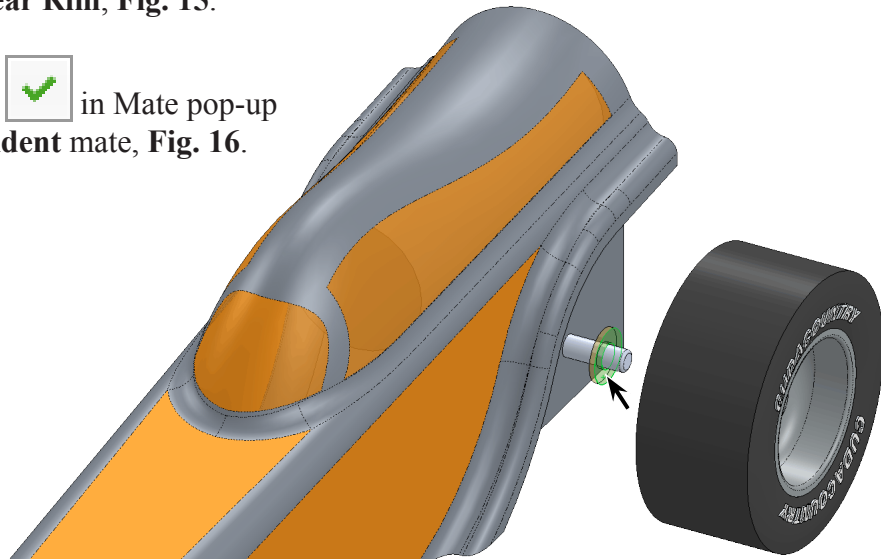

Fig. 14
Step 3. Click **side face of Washer, Fig. 14**.